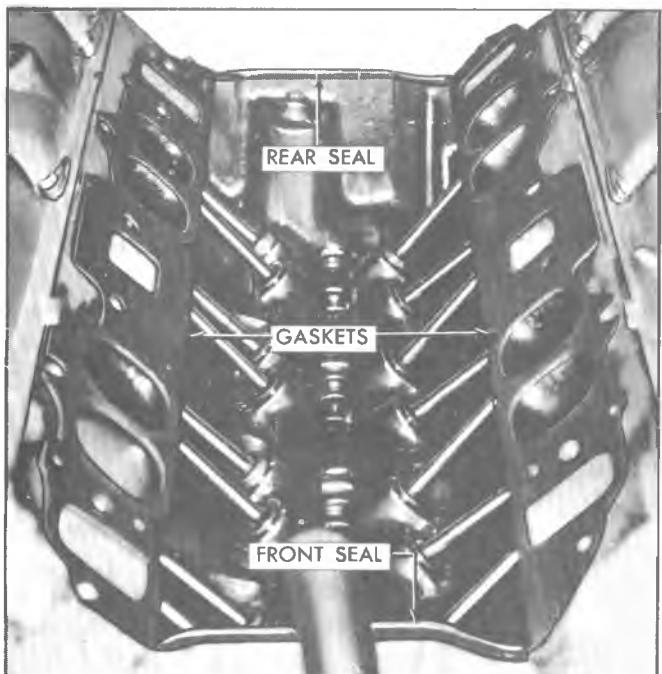

Fig. 7V—Intake Manifold Gasket and Seal Location
2. Install manifold seals on block and gaskets on cylinder heads (fig. 7V). Use sealer at water passages and where seals butt to gaskets.